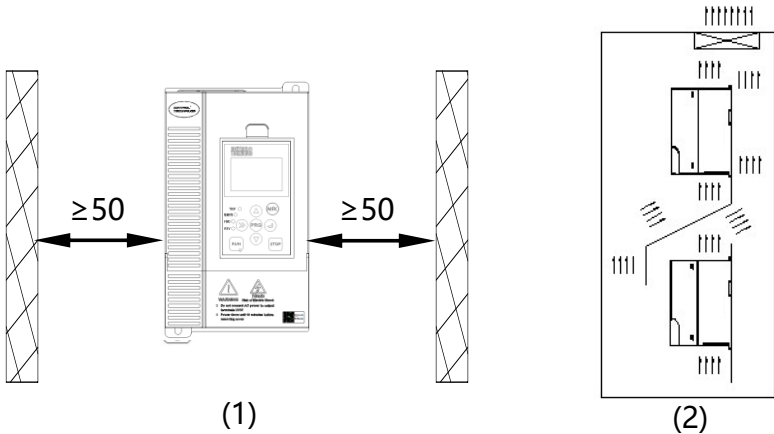

Fig.3-1 Mounting direction and Space/Installation diagram
In order not to reduce the drive cooling effect, the drive must be mounted vertically, and certain space must be maintained, as shown in Fig. 3-1(1)
- When installing multiple drives vertically upside and downside, the air deflector is required as Fig.3-1(2)